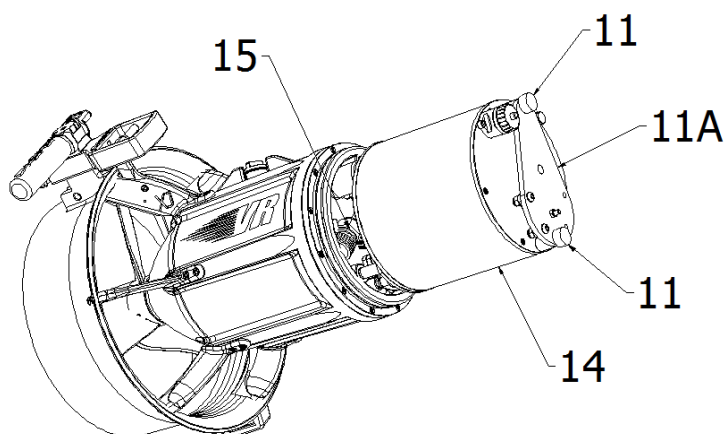

Figure 5
Put the ADV in upright position, repeat the “Extracting the battery” sequence in reverse order putting the connector (15) in the exact position as shown in the picture (see fig. 5)